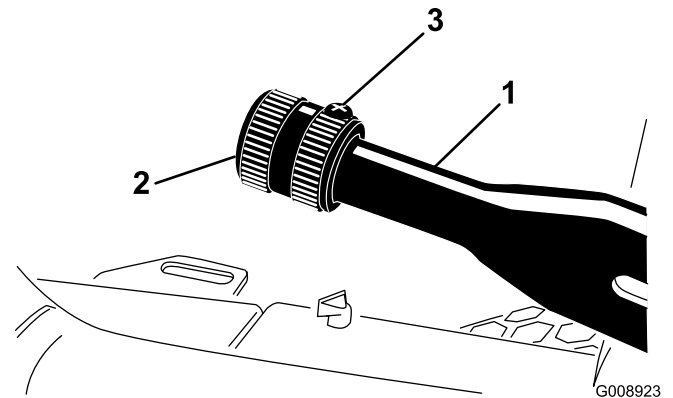

Figure 71
1. Loosen the set screw that secures the knob to the parking brake lever (Figure 71).